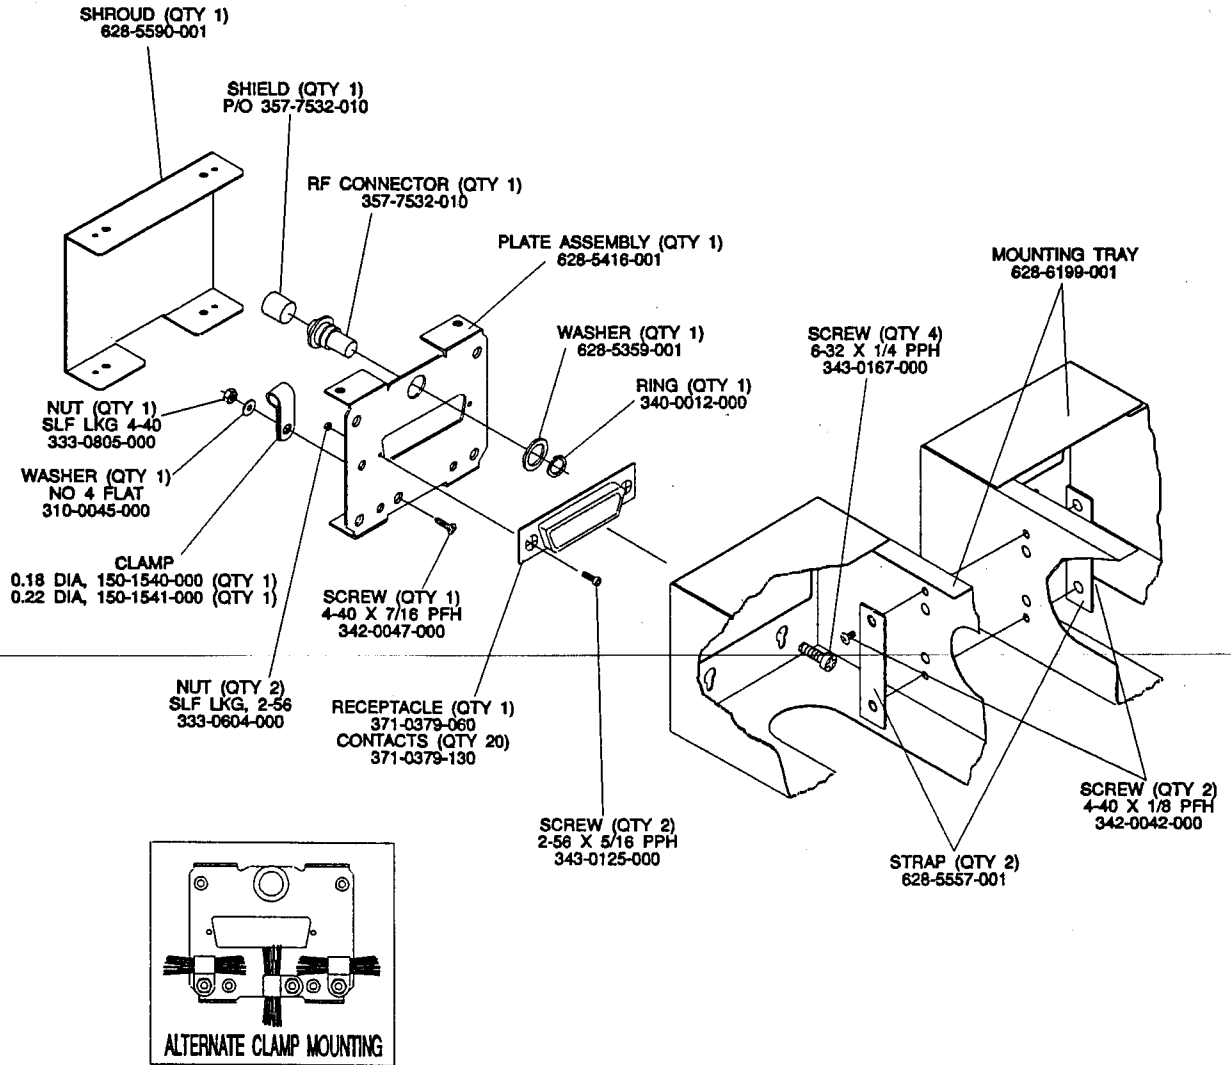

Figure 2, VHF-251A Installation Kit, P/N 690202-1
g. Dual installations are accomplished by joining two mounting trays together, using the hardware provided in the installation kit. Connecting screws should be varnished to prevent loosening due to vibration. Included in every installation kit are two straps and two screws. To join two mounting trays together, four straps and four screws are required. (Refer to figure 2).